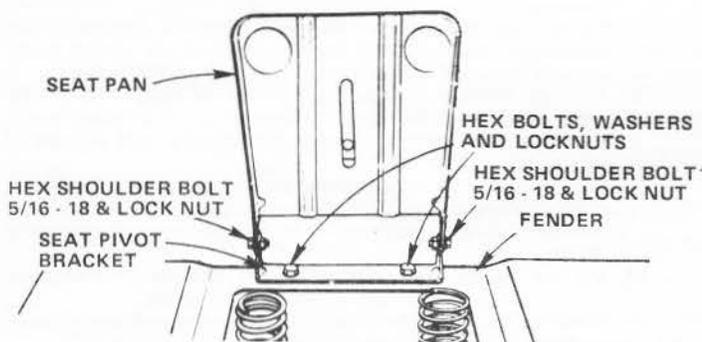

FIGURE 2
1. Mount Seat Pivot Bracket to Fender using two Hex Bolts 3/8 - 16 x 3/4, two Washers 13/32 x 13/16 x 16 Ga. and two Crownlock Nuts 3/8 - 16 (Fig. 2). NOTE: WASHERS SHOULD BE POSITIONED UNDER FENDER NEXT TO NUTS. Seat Pivot Bracket, Bolts, Washers and Nuts found in Bag of Parts. Tighten Nuts securely.
2. Mount Seat Pan to Seat Pivot Bracket using two Shoulder Bolts 5/16 - 18 and two Lock Nuts 5/16 - 18 (Fig. 2) (head of Bolts to outside). Bolts and Lock Nuts found in Bag of Parts. Tighten Nuts securely.